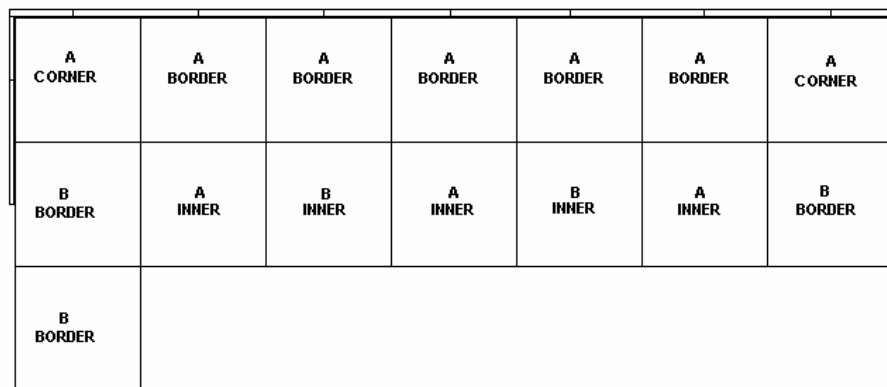

Figure 21
20. You should be able to continue to install you floor in a similar fashion by locking BORDERS and INNERS until you come to your desired length and width except for the last row. Make sure you use the proper TOP, LEFT, RIGHT, borders for proper transition installion and locking of border panels with transition. (Figure 21, 22, 23)